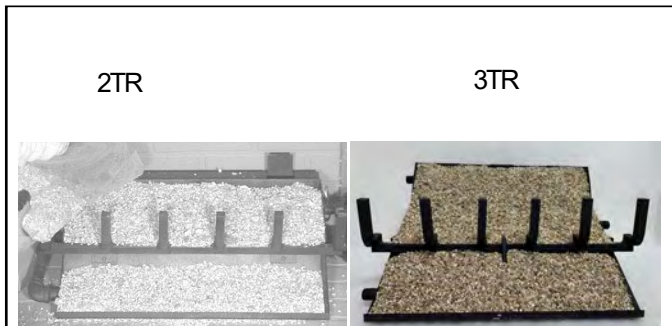

Figure 7.4 Vermiculite Placement
3. Pour vermiculite over the sand in each pan until they are full. See Figure 7.4.